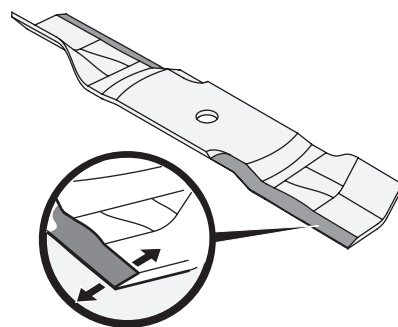

Fig. 66
- To properly sharpen the cutting blades, remove equal amounts of metal from both ends of the blades along the cutting edges, parallel to the trailing edge, at a 25°-30° angle. Always grind each cutting blade edge equally to maintain proper blade balance (Fig. 66).